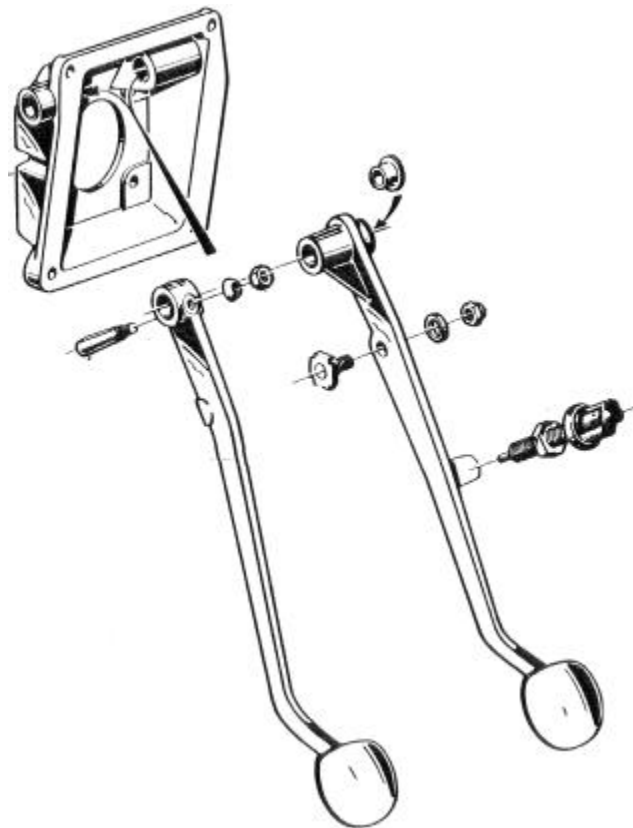

Fig. 2. Pedal securing bolts
5. Pull the cluster housing up until the bolt securing the clutch pedal to the shaft is visible--see Figure 2. Remove the nut part way, until the top of the nut and the end of the bolt are flush. Tap the end of the bolt until it drops down; it will still be held in place by the nut. Reach into the housing, and support the bolt with one hand, while removing the nut and washer with the other. Pull the bolt out.